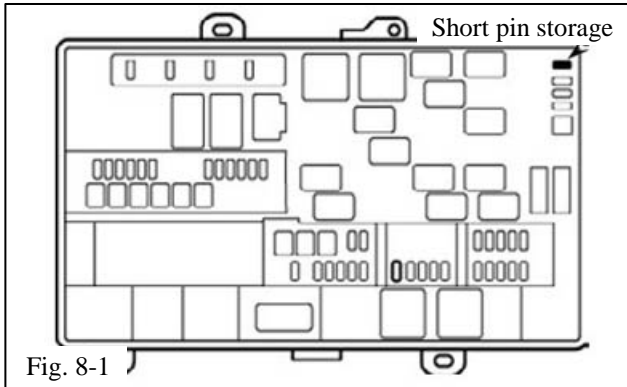

Fig. 8-1
- (a) Remove the short pin after the function check (Fig. 8-1).